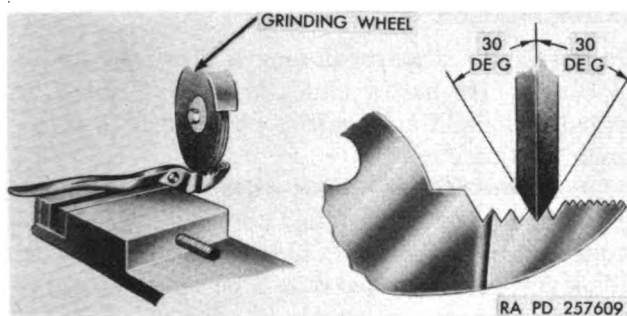

Figure 139. Reconditioning plier jaws.
- (1) *Grinding serrations.* Separate the jaws of the pliers by removing the nut and screw, if so designed, and place one plier jaw in a grinding vise. Use a narrow grinding wheel that has an included angle of 60° (30° on each side of the centerline) (fig. 139) and grind the serrations.
- (2) *Filing serrations.* Place the pliers in a vise protected with soft jaws and file the serrations with a triangular shaped file.
- (3) *Sharpening cutting edges.* Some side cutting pliers are designed so they can be reground. Examine pliers carefully to see if the design will permit them to close completely if material is ground from the cutting edges. Do not attempt to sharpen pliers not designed to be ground, such as diagonal cutting pliers. Separate pliers, if possible, and place in a vise. Grind the cutting edges so that the ground bevel is at right angles with the inside